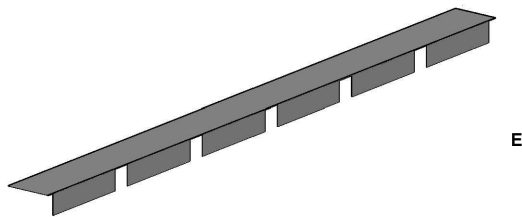

FIGURE 12
3. Cut each of the major ribs as shown in Figure 12 following the roof slope. **Do not cut the minor ribs or the flat of the panel.** If the end of the roof sheet ends on a major rib, only cut the portion of the rib in line with the roof panel.
4. Transition Flashing (T-036-00), 2" x 4" angle flashing, 2" leg down, 4" leg over the roof panel. With the flashing centered on the canopy, push the flashing to the wall and mark a vertical lines on the 2" leg on each side of the major ribs. Notch the 2" leg as in **Figure 12**. Trim off any part of 2" leg that interferes with the horizontal channel.